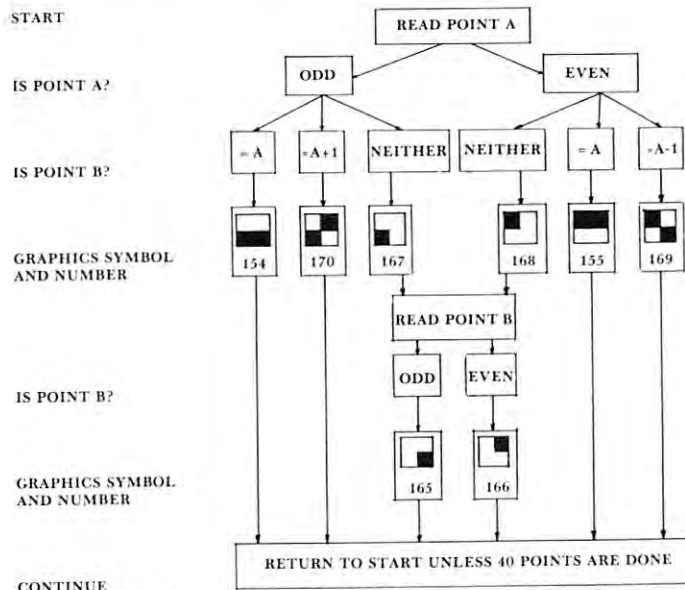

Fig. 2. Decision tree for selecting correct graphics symbols.
The program is designed first to scale the input data array, DA(I), between 0 and 40 (lines 5260-5332) and put the results into array DY(I). Datasets with a difference between maximum and minimum values of more than 40 are condensed and smaller ones expanded on the graph. Both positive and negative values now will be plotted above the X-axis. Actual high (YH) and low (YL) values are saved and printed by line 5900 to give an idea of absolute as well as relative magnitudes. Next, 40 locations on the video display are computed for the scaled points. This must be done two points at a time because several symbols can be used to represent the pair, depending on whether they are equal, different by  $\pm 1$ , or neither. Lines 5340 - 5780 code for the selection of the correct symbols. Figure 2 shows a decision tree that depicts how the choice is made. Since the first point of the pair automatically has an odd X-value (1,3,5,...39) and the second an even value (2,4,6,...40), only Y-values need be evaluated as odd or even. Based on the following table of possible X,Y coordinates, the correct quadrants are chosen for each square: